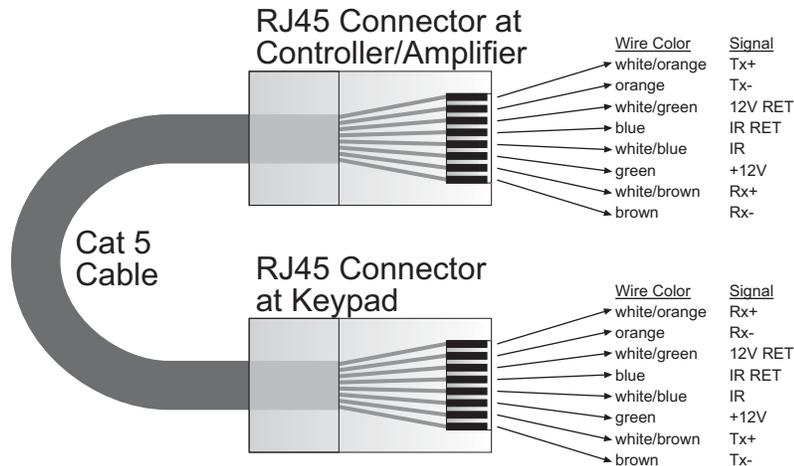

Figure 10 - CAT5 Pin Assignments (per EIA/TIA 568B)
3. With the Controller/Amplifier turned off, connect the CAT5 cable to the appropriate RJ45 connector, using **Figure 10** as a guide for CAT5 termination.
1. See **Figure 10** for termination of the CAT5 cables to the RJ45 connectors.
1. Refer to **Figure 10** for proper termination at the zone-end of the CAT5 cable.
1. For a second keypad in the same zone, terminate the CAT5 cable in the same way as shown in **Figure 10**.